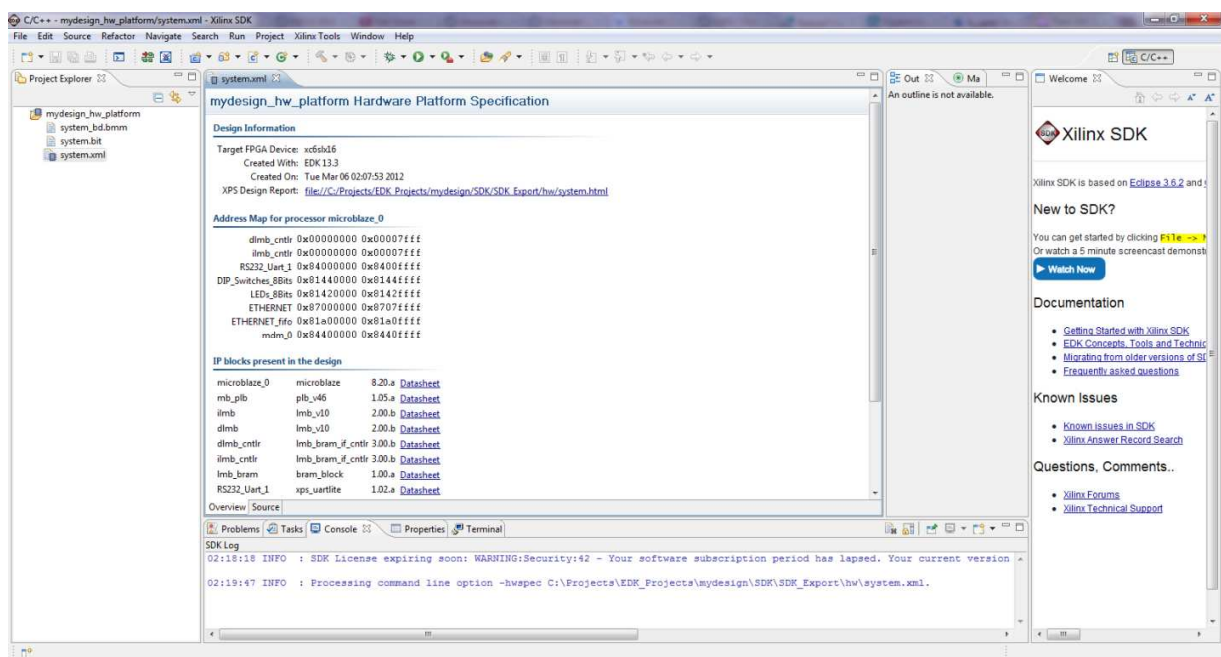

Figure 21. SDK Main Window (Step 3)
Step 3: The SDK main window will start then as shown in Figure 21. The SDK IDE development area is divided into several areas. The left-hand side is the Project Explorer window which shows one project “mydesign_hw_platform” which represents the hardware created in part one. You will notice it includes the file “system.bit”. The middle area is the code area. By default the file “system.xml” which lists the components of the system and information about each of them.